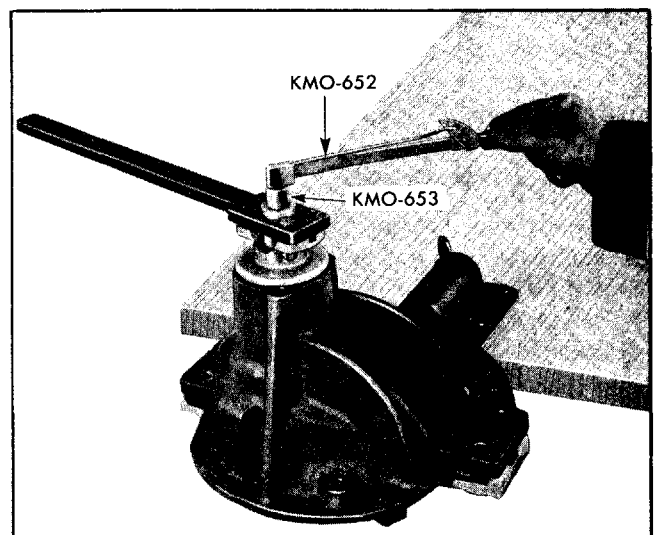

Fig. 4-41 Checking Pinion Bearing Preload With KMO-652
27. Continue to tighten the nut a little at a time, stopping frequently to turn the pinion several revolutions to seat rollers and to check turning effort with inch-pound Torque Wrench KMO 652 (Fig. 4-41) or J-5853.